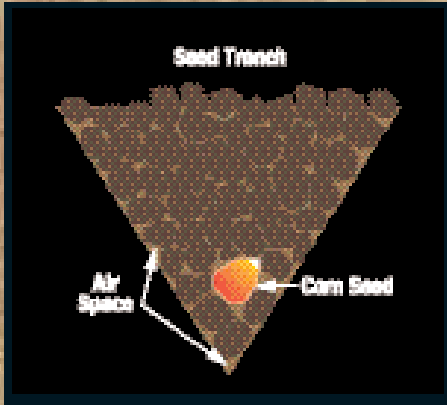

FIGURE 3a. Cloddy seed beds provide poor seed-to-soil contact which keeps the seed from germinating.
- A **cloddy seed bed** (i.e., large soil aggregates) is typically a low density/loose seed bed with lots of air pockets that **dries out** (see Figures 3a and 3b).